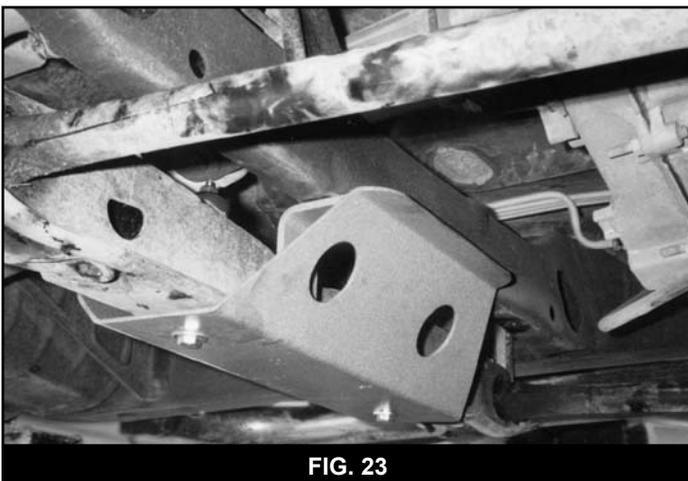

FIG. 23
63. Install torsion bar guard #01148. Install guard using the OE skid plate bolts in the thread crossmember holes. (Supplied 3/8" self-tapping bolts can also be used.) Place a 3/8" USS washer on the 3/8" x 5-1/2" bolt and start through the guard. Install a supplied blue bushing between the guard and the cross member. Run the bolt through the bushing and frame. Install a bushing and a stem washer on top of the 3/8" bolt sticking out the top and secure with the 3/8" nuts. Torque all 3/8" bolts to 30 ft.lbs. (Fig. 23) Hardware found in bolt pack #511.